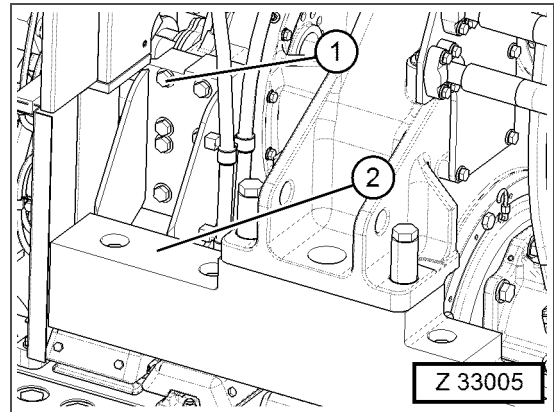

Fig. 3-55
47. Disassemble the engine mounting bolts (Fig. 3-55, Pos. 1) of the rear engine suspensions (Fig. 3-55, Pos. 2) at both sides.